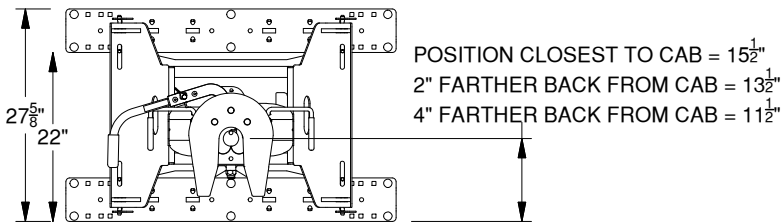

Figure A2: Distance from edge of rear rail to pivot point. (Rails, base and coupler shown fully assembled.)
1. Mount arms. Mount the pivot arms using one of the twelve different locations illustrated in Table A1 and Figure A2. These twelve locations allow flexibility in coupler height (vertical adjustment) and distance from the cab (horizontal adjustment). Choose a location so that your trailer will be as level as possible and have adequate turning clearance while towing.